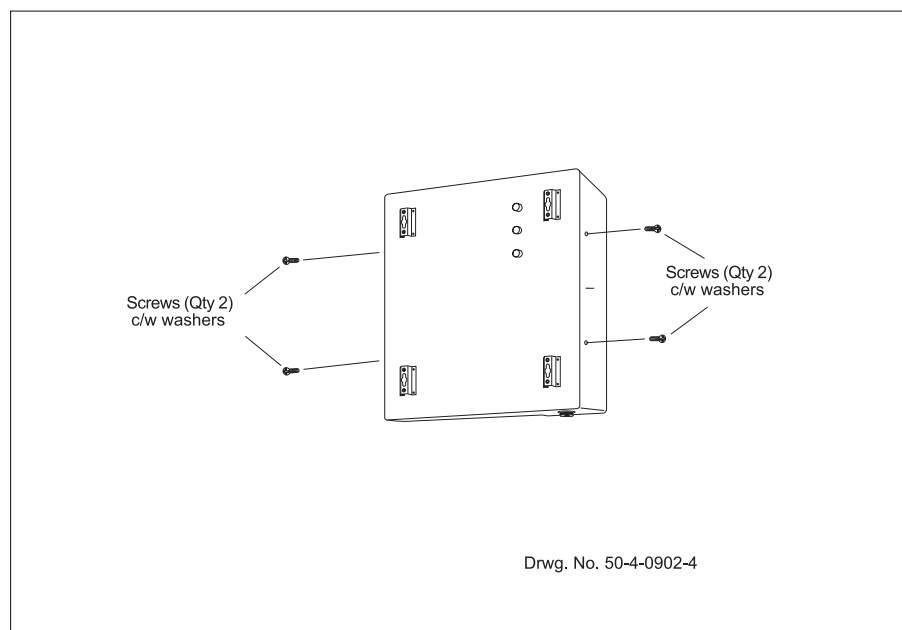

Figure 4.1: Wall Mount Cover Removal
- 2 Remove the two screws (complete with washers) at the sides of the terminal (see Figure 4.1) and store them in a safe place.